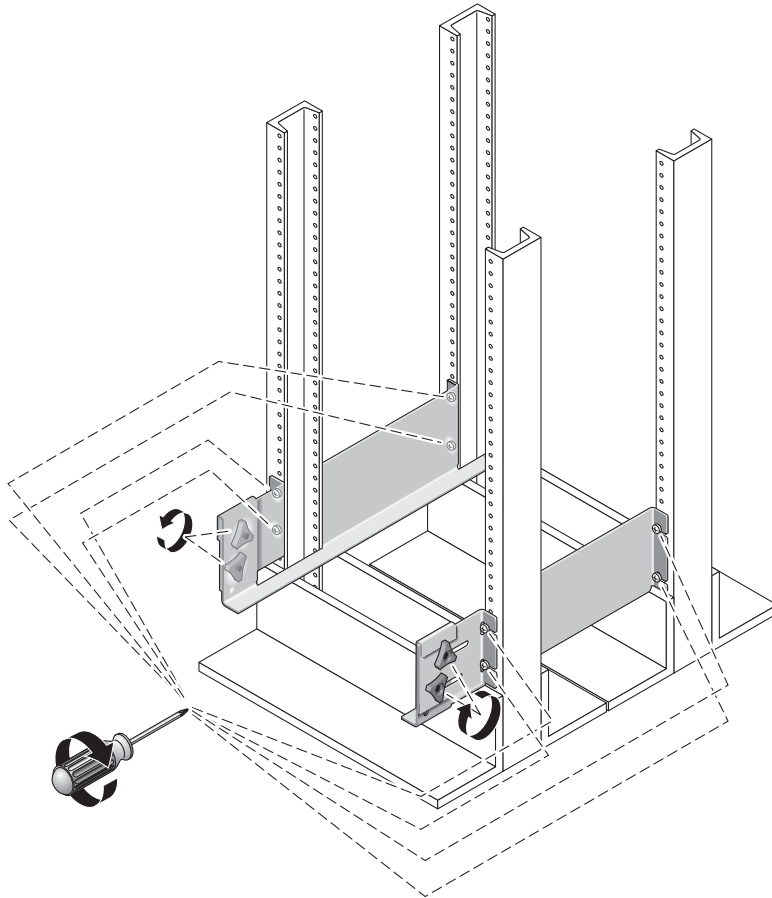

FIGURE 13 Tightening the Screws on the Left and Right Rails of the Telco 4-Post Rack
4. Tighten the eight screws (four per side) at the front and back of both mounting rails to secure each rail to its post (FIGURE 13).